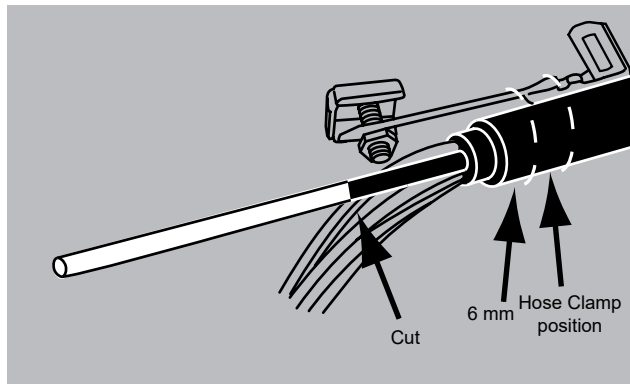

FIGURE 16
16. Lay the strength member clamp along the cable to a position where the hose clamp will fit 6mm (.25") from the cable butt. Trim the strength member to fit under the strength member end clamp. (Figure 16)